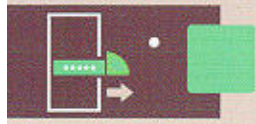

Figure 11
3.10.2 Press the button on the Keyboard beside the symbol shown in figure 11